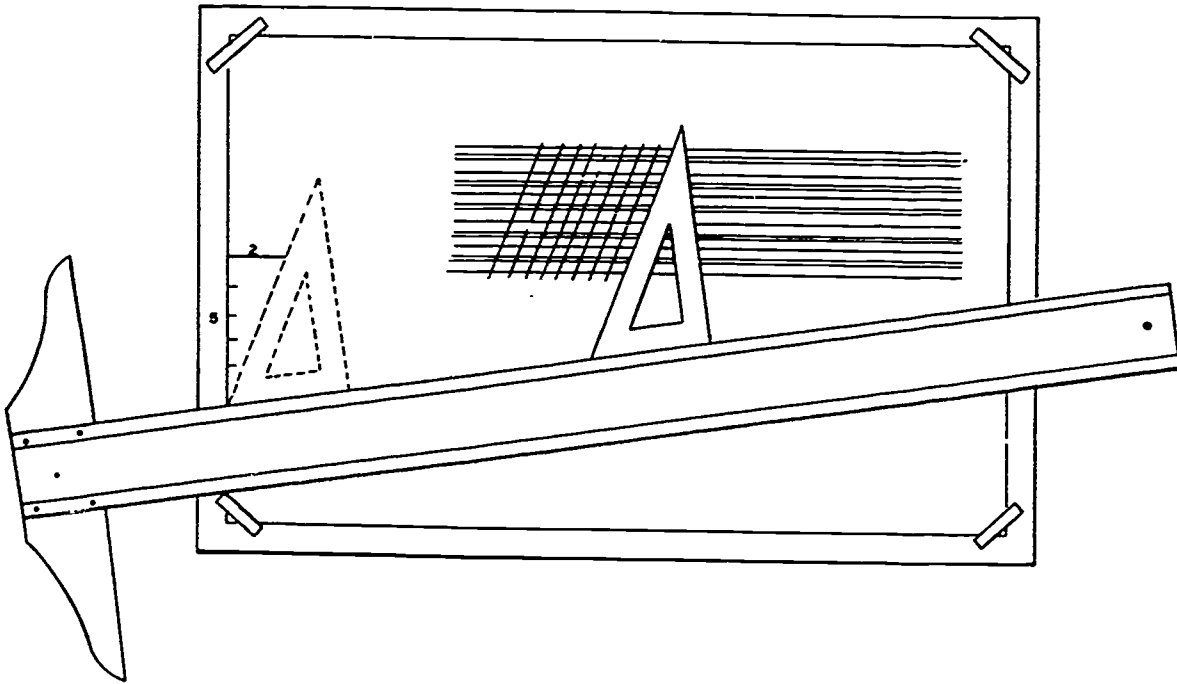

Figure 2-5. T-square.
**T-square.** This tool gets its name from its shape, which you probably observed when looking at figures 2-5 and 2-6. It consists of a blade attached at one end to a shorter crosspiece called the *head*. As you can see, the head is mounted under the blade so that it will fit against the edge of the drawing board while the blade rests on the surface of the board.